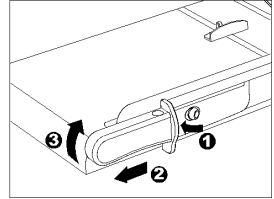

Fig. 1
- Press the arm lock downwards (Fig. 1/1).
- At the same time, pull the guillotine arm towards you using the handle (Fig. 1/2).
- Move the guillotine arm upwards (Fig. 1/3).